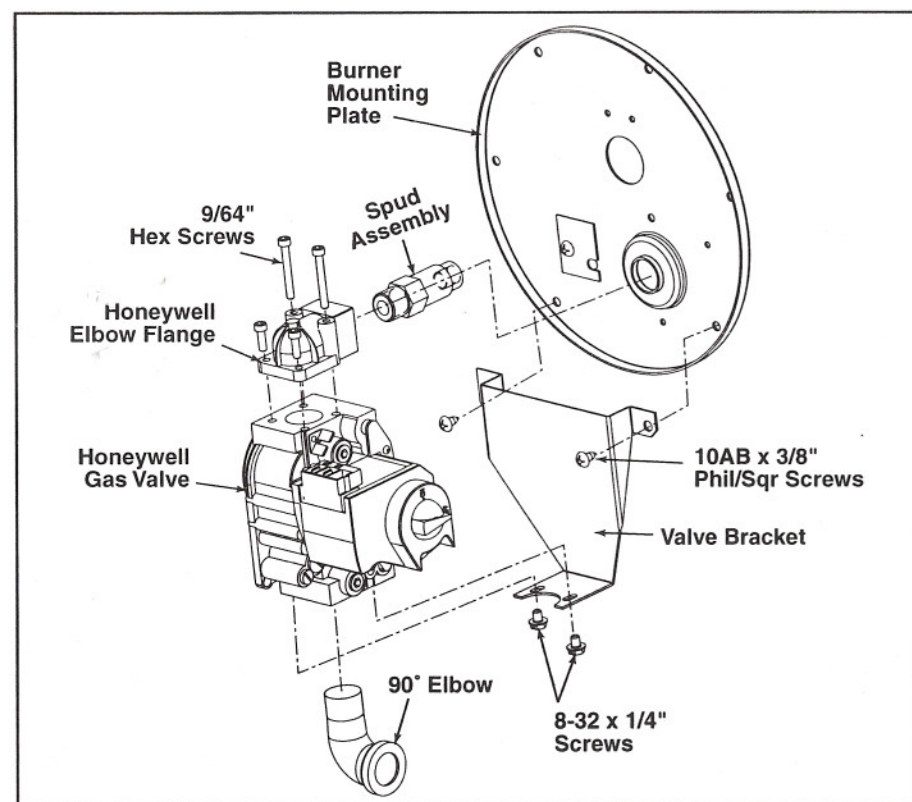

Figure 1. Burner Assembly
5. Plug the screw hole with the screw removed in step 4 (See Figure 1).
8. Assemble the Honeywell elbow flange (#624612) on the new gas valve outlet as instructed in the Honeywell kit manual. The orientation of the gas outlet is shown in Figure 1.
11. Mount the gas valve bracket on the inlet of the gas valve using the two 8-32x1/4 screws, as shown in Figure 1.
12. Remove the two screws from the burner plate as shown Figure 1.